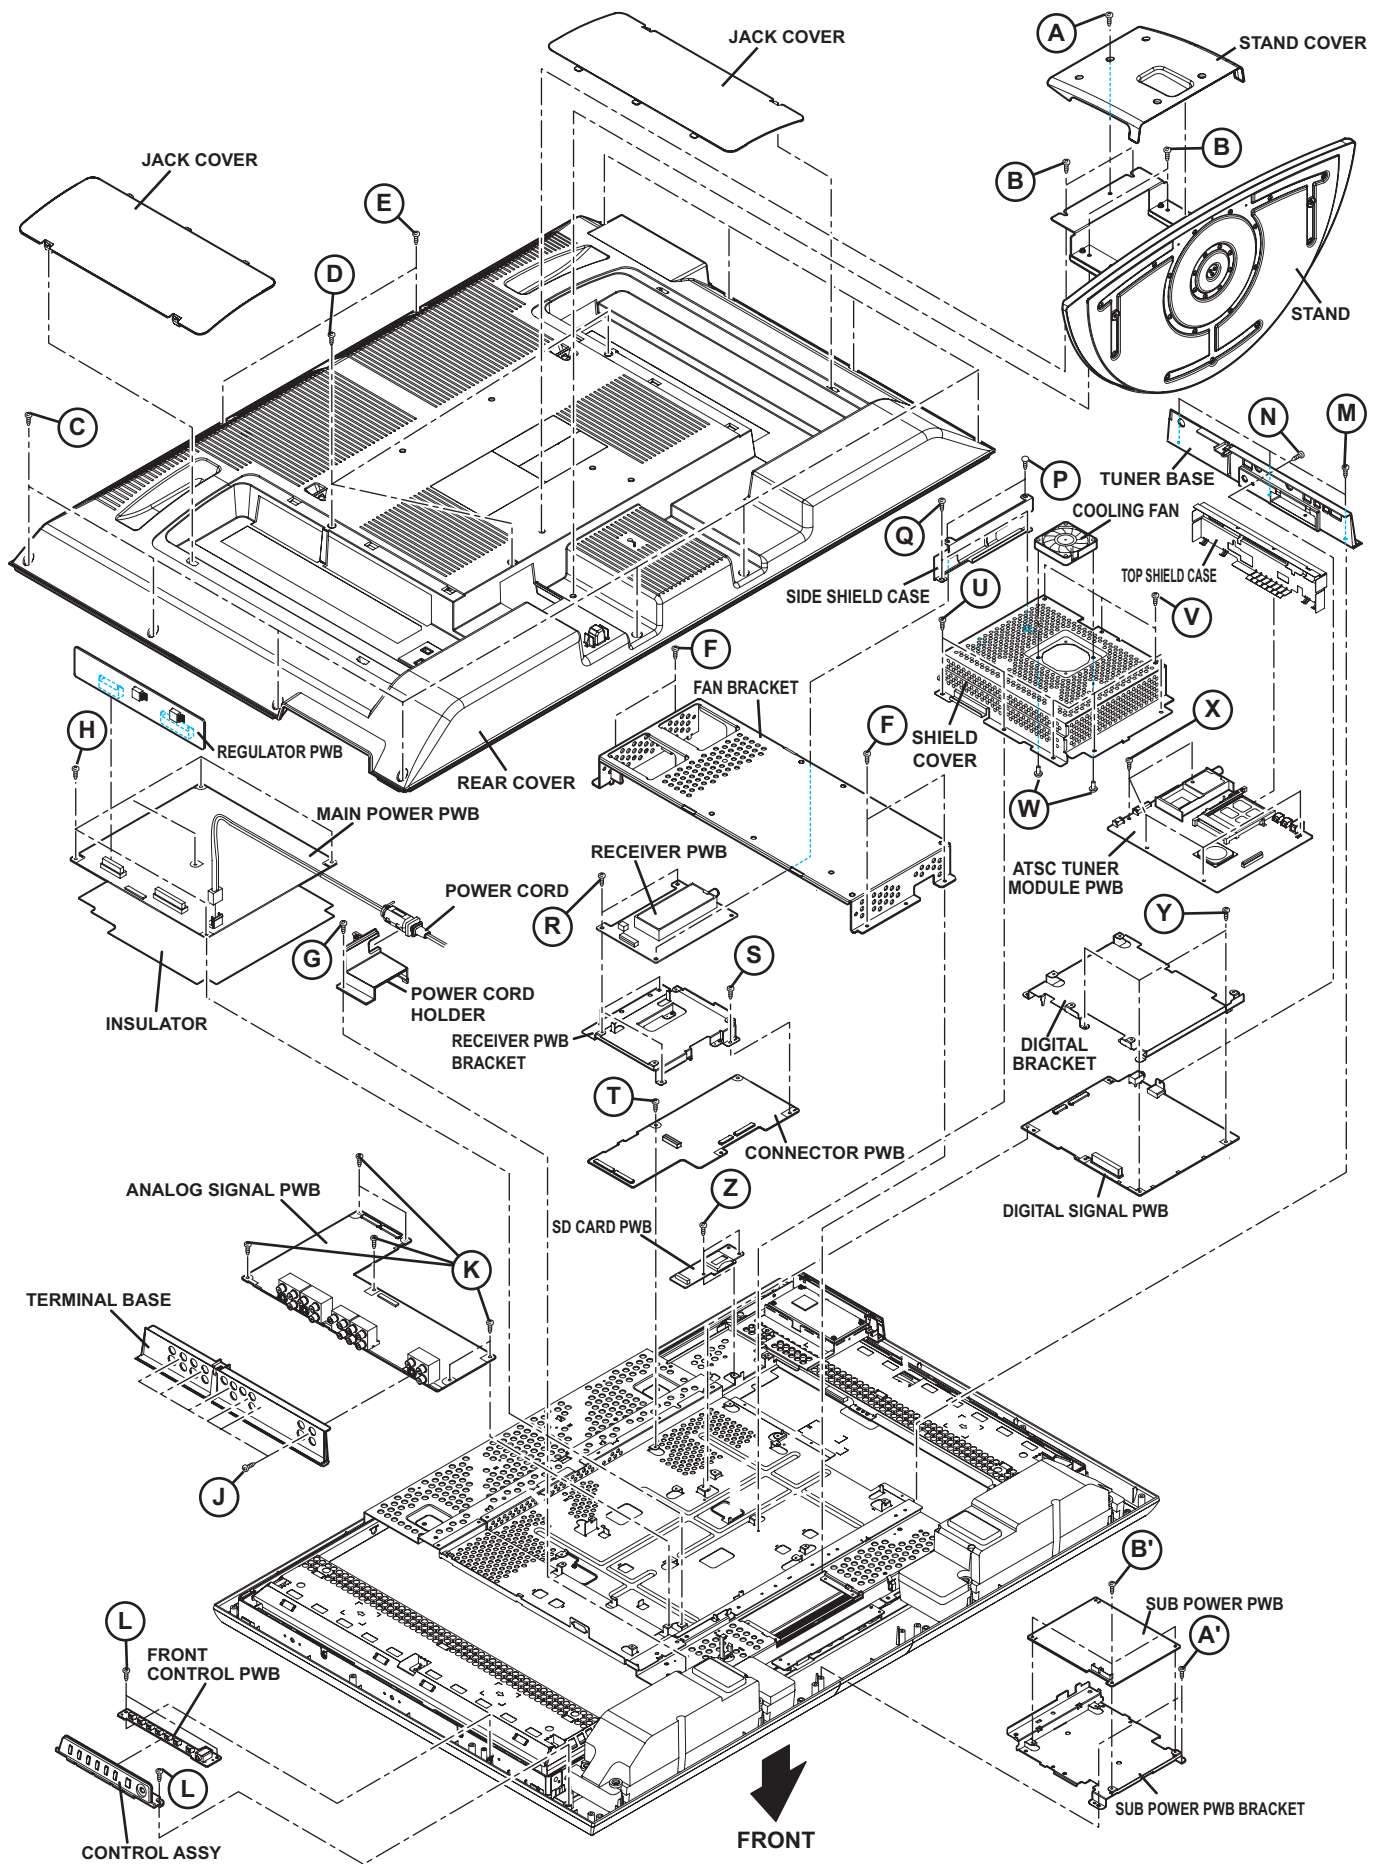

Fig.1
- (1) Remove the 5 screws [U] and the 3 screws [V], then remove the SHIELD COVER with COOLING FAN.
- (2) Remove the 2 ribets [W], then the remove the COOLING FAN.
3.2.10 REMOVING THE ATSC TUNER MODULE PWB (Fig.1)
- (1) Remove the 5 screws [X], then remove the DIGITAL TUNER UNIT.
3.2.11 REMOVING THE DIGITAL SIGNAL PWB (Fig.1)
- (1) Remove the 3 screws [Y], then remove the DIGITAL BRACKET.
- (2) Remove the DIGITAL SIGNALPWB.
3.2.12 REMOVING THE SD CARD PWB (Fig.1)
- (1) Remove the 2 screws [Z], then remove the SD CARD PWB.
3.2.13 REMOVING THE SUB POWER PWB (Fig.1)